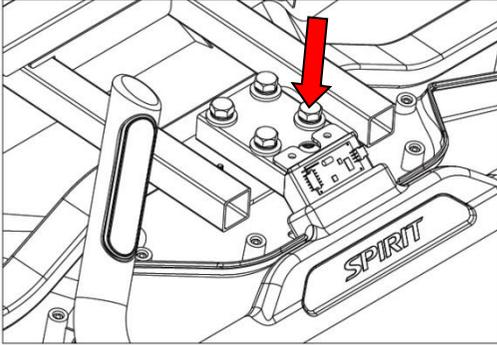

Figure 4.9.3
4.9.4 As shown in Figure 4.9.3, use the hexagonal wrench to remove the four hexagonal screws, you can replace the hand-held group, assembled and then removed in order to replace.